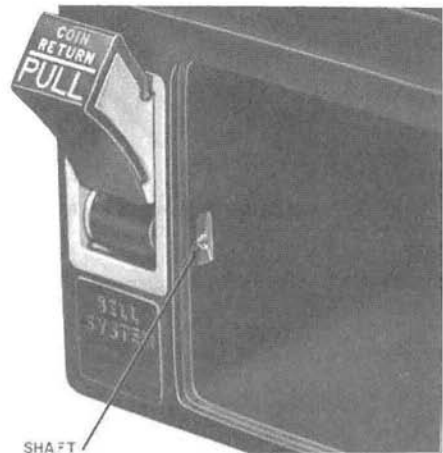

Fig. 48—Pull Bucket Retaining Shaft
- (1) Use diagonal pliers to pry up tabs on split end of pull bucket retaining shaft (Fig. 48).
- (2) Compress tabs with pliers to line up with shaft.
- (3) Drive shaft from housing using hammer and drive punch.
- (4) Swing pull bucket to open position and pull forward until ends of springs are exposed.
- (5) Use TP-75503 spring hook to disconnect springs from coin chute crossbar.
- (6) Disconnect springs from pull bucket crossbar.